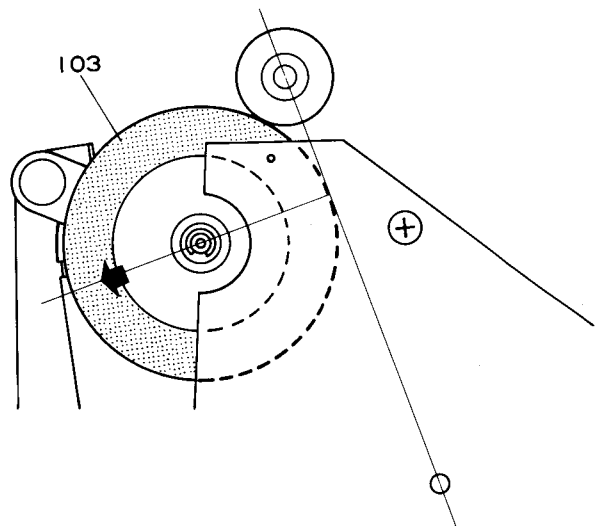

Fig. 10
*** IDLER PRESSURE ADJUSTMENT** (Refer to Fig. 10)
- (1) Supply power and shift the function selector knob (005) in playback position.
- (2) Shift the shut-off switch (SW7) in ON position by pressing the shut-off switch lever (104).
- (3) Pull the idler (103) in the direction at right angle to the line connecting the center of capstan shaft and motor pully shaft.
- (4) If the set is normal, the pressure of the idler is 300 ± 50 g.
- (5) If the pressure is out of this range, adjust it by idler lever spring (109).